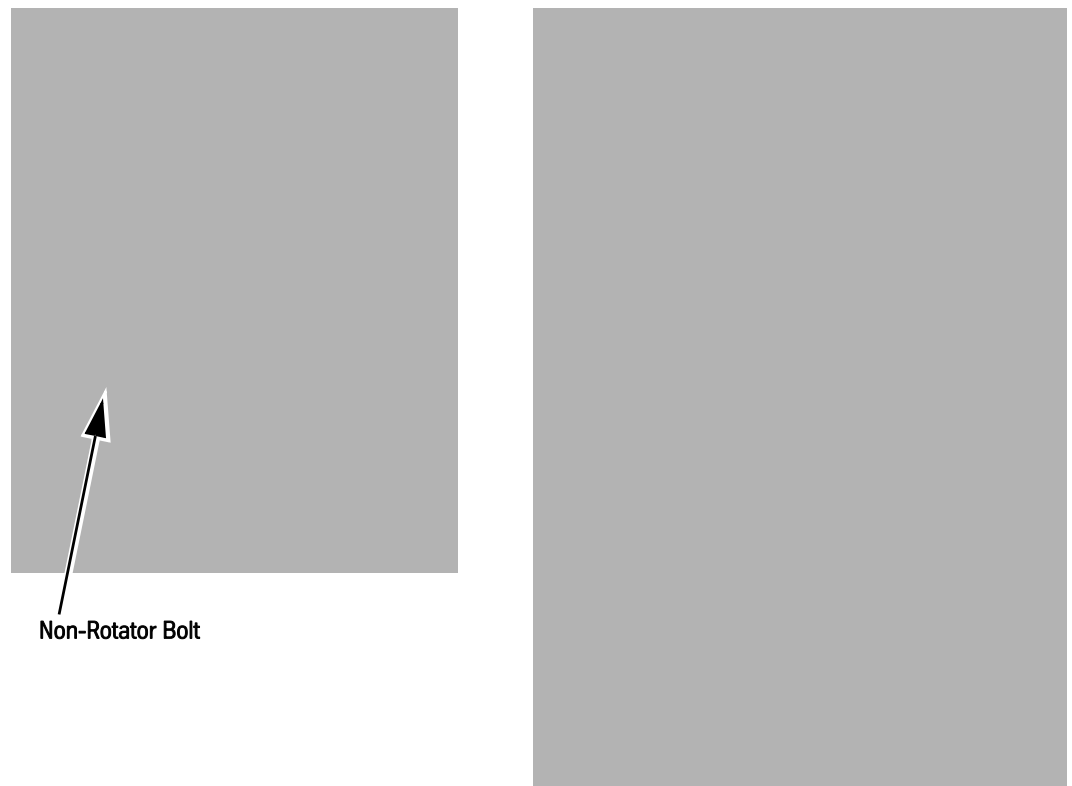

Figure 32 - Non-Rotator Bolt
4. If the torque is below the required value, loosen the non-rotator bolt and equally tighten the sheave retainer bolts. See Figure 32 on page 47.